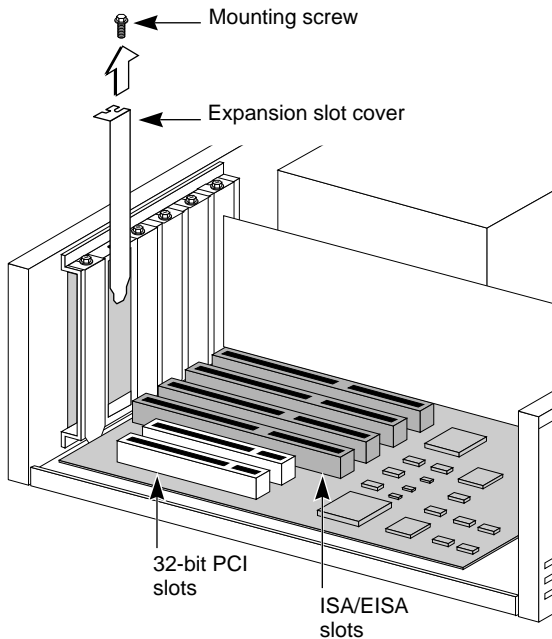

Figure 2-1 Removing the Expansion Slot Cover
You can install the 3C359 NIC in either a standard bus master 32-bit slot, as shown in Figure 2-1, or a newer bus master 64-bit slot. If both slot types are available in your PC, place the NIC in the 32-bit slot.
- 2 Unfasten and remove the expansion slot cover (Figure 2-1) from the selected bus master PCI slot.**